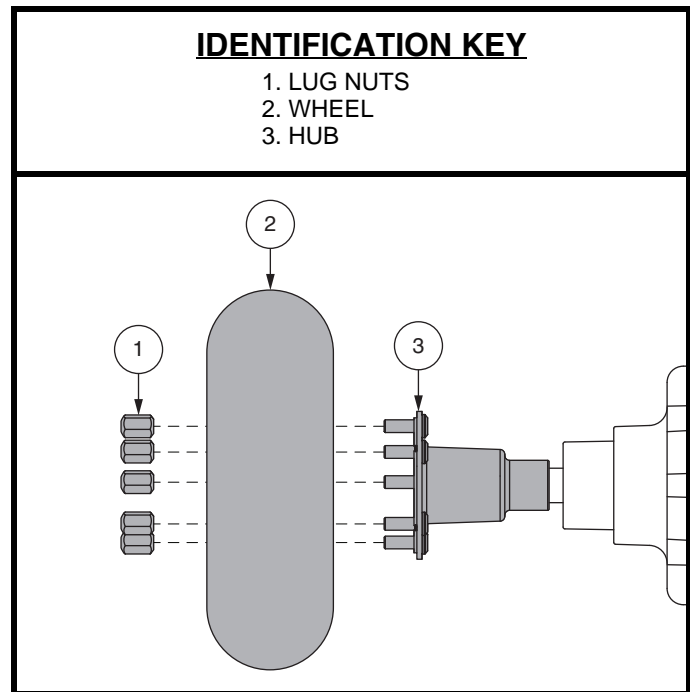

Figure 22. Drive Wheel Removal
4. Remove the lug nuts from the hub. See **figure 22**.